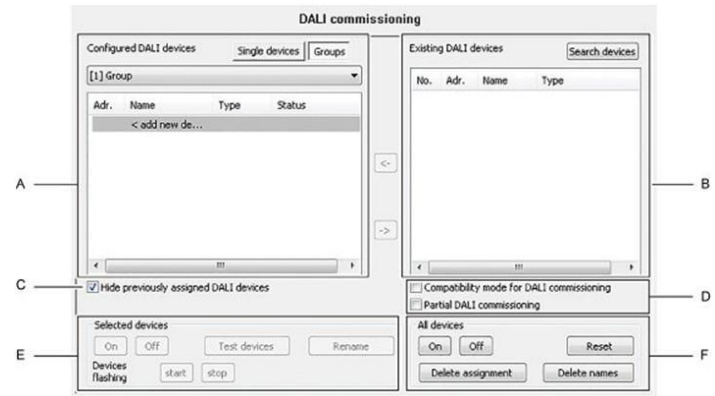

Figure 63: Panes of the commissioning environment
The commissioning environment of the plug-in is divided up into two panes. The right-hand pane lists the operating devices found in the DALI system. The left-hand pane displays the created groups. The assignment of the DALI devices to the programmed groups or single devices also takes place there. (Figure 63). The pane of the programmed DALI devices (A) displays all the groups and single devices configured in the ETS plug-in. In the later course of DALI commissioning, this area plays host to the assignment to found electronic ballasts of the DALI system. Groups can contain multiple electronic ballasts, whereby single devices can only ever contain one electronic ballast. Select whether the panel displays groups or single devices, thus allowing assignments to these elements, by pressing the **Single devices** or **Groups** buttons in the top area of the pane. Single devices added to groups during DALI commissioning or as part of offline commissioning are also available in the "Single devices" view. This creates the option of detecting all the programmed single devices centrally in just one commissioning window. Different columns of the window of the programmed devices show the programmed short addresses of the devices (1...64), the device names, optionally the DALI device types (if the use of device types is configured or required) and the assignment status of found electronic ballasts ("not assigned", "assigned"). The devices can be assigned individually, either in the project design of the single devices (under "Addressing -> Groups... -> [x] Group -> Single devices -> [x] Electronic ballast" or "Addressing -> Single devices... -> [x] Electronic ballast") or alternatively, using the **Rename** button in the control panel of the commissioning dialog (E). This allows clear labelling of the operating devices (e.g. "Lamp, entrance area" or "Light strip, window, south").
For special cases, it is possible to assign operating devices for group control to more than just one DALI group. In the standard case, assignment of a DALI operating device is only possible in one device. This makes device assignment clear, and the unique assignment means that there are no group overlaps and, as a result, no influencing of configuration and feedback values. If necessary, multiple group assignment can be enabled as an alternative. To do this, the checkbox "Hide previously assigned DALI devices" (C) must be deselected in the Commissioning dialog of the plug-in.(Figure 63). This means that it is then possible to assign DALI operating devices to more than just one group during online commissioning.